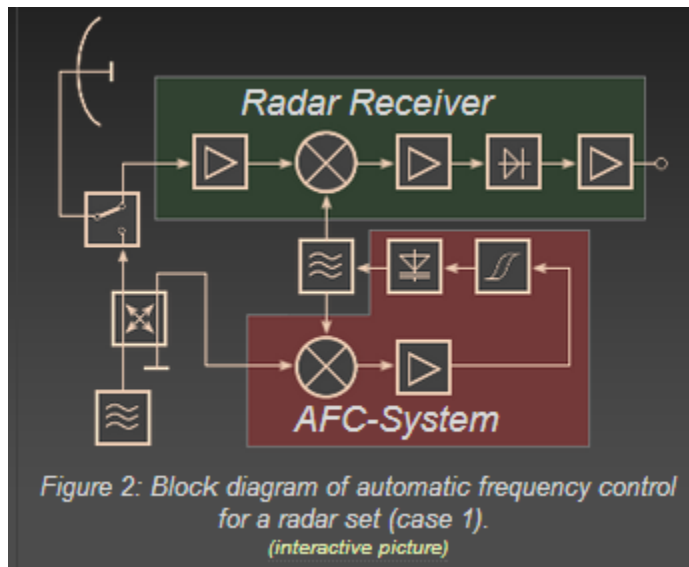

Figure 2: Block diagram of automatic frequency control for a radar set (case 1).
1. The transmitters frequency readjust the receiver (Figure 2);